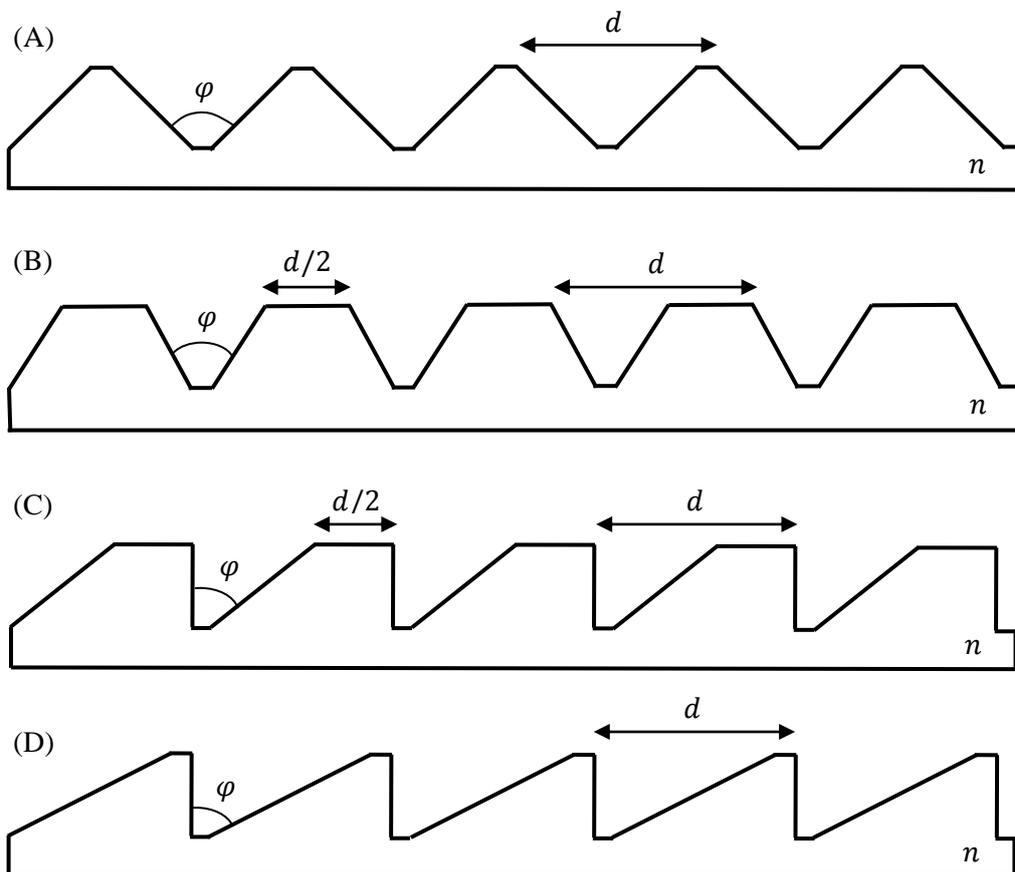

Figure 5: Different possibilities for the sample's structure.
- b. (0.5 pts.) Figure 5 illustrates schematically four possibilities for the sample's microscopic structure. n stands for the refractive index of the plastic. Choose the structure that best fits your observations. Note: the 5 periods shown in the figure are for illustration only. In reality, d is small, and the sample contains many periods.